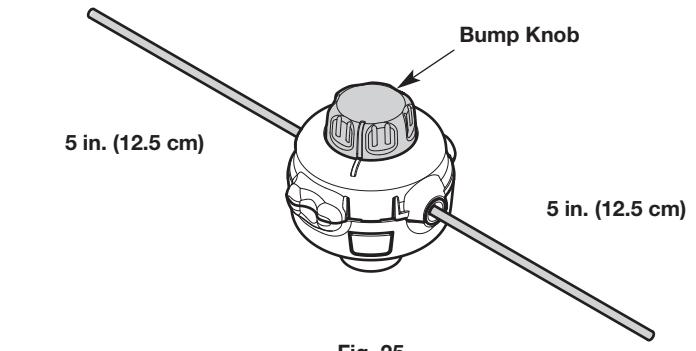

Fig. 25
5. Turn the bump knob to wind the line until about 5 inches (12.5 cm) protrude from each side of the cutting head (Fig. 25).